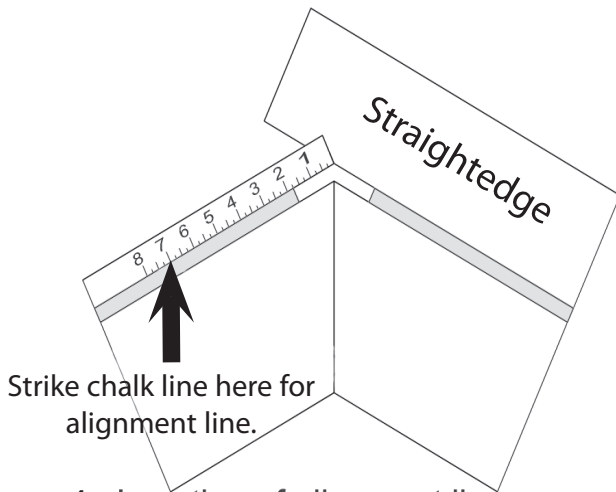

Figure 4 Location of alignment line.
**STEP 3** - It is very important that the OmniRoll® ridge vent be aligned correctly and evenly down the roof's ridge. Snap a chalk line down both sides of the ridge at a distance of 7" down from the peak as shown in Figure 4. The chalk lines should be used to help keep the OmniRoll® centered over the peak of the roof during installation.